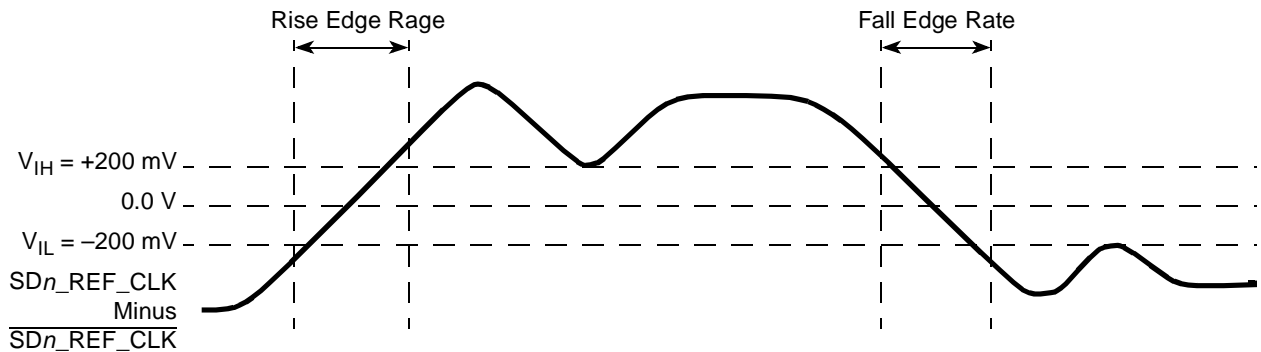

Figure 31. Differential Measurement Points for Rise and Fall Time
3. Measured from -200 to $+200$ mV on the differential waveform (derived from $\overline{SDn_REF_CLK}$ minus $\overline{SDn_REF_CLK}$). The signal must be monotonic through the measurement region for rise and fall time. The 400 mV measurement window is centered on the differential zero crossing. See Figure 31.